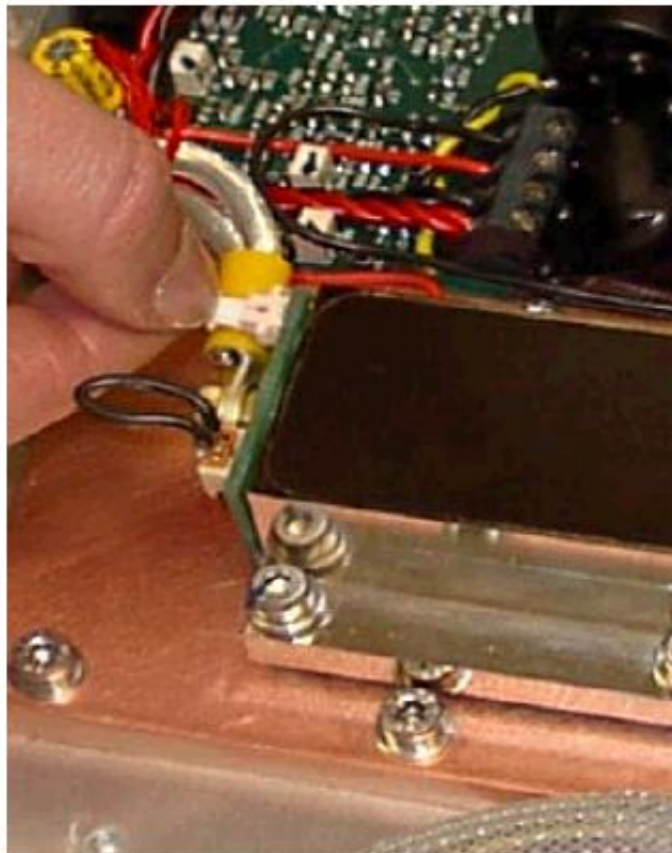

fig. 9
8) Disconnect the thermistor contact [fig.9]
16) Connect the thermistor cable. [as fig.9]